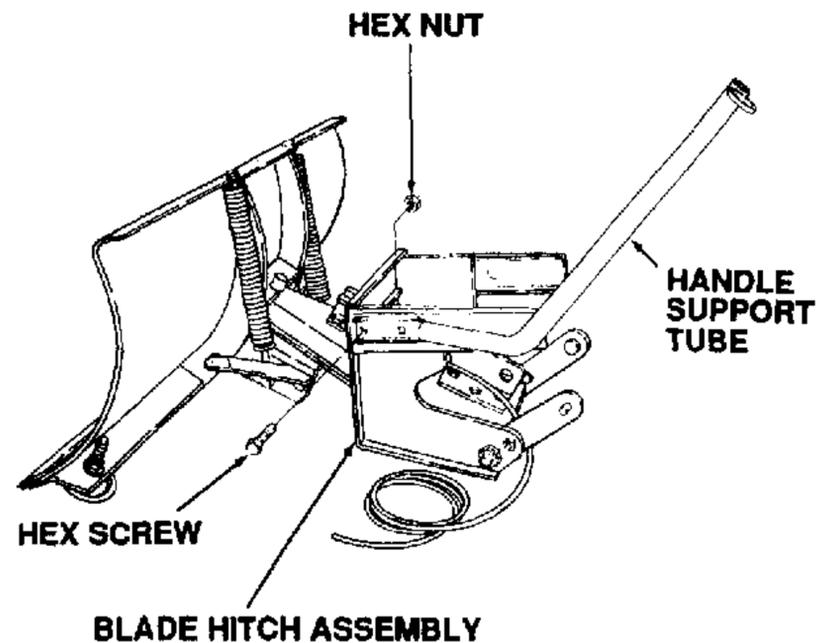

Figure 7-12. Attaching Handle Support Tube.
1. Assemble the handle support tube (3, Fig. 7-9) to the LH blade hitch assembly using the hex screws (17) and hex nuts (16) See Fig. 7-12.